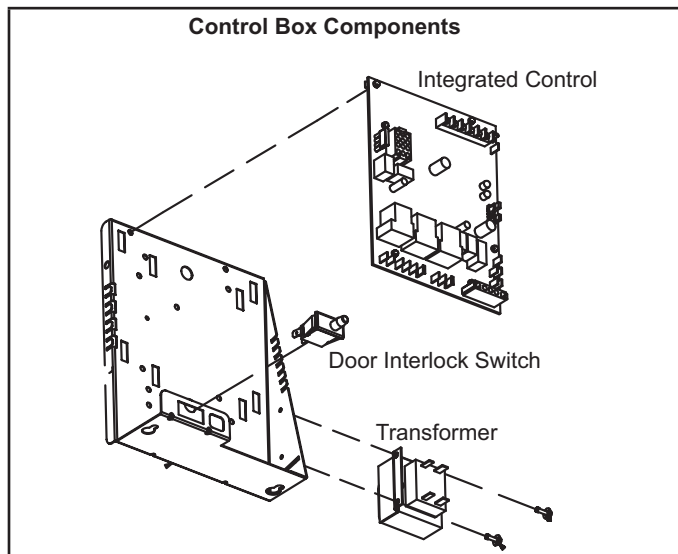

FIGURE 2
ML296DFV(X) unit components are shown in FIGURE 1. The gas valve, combustion air inducer and burners can be accessed by removing the access panel. Electrical components are in the control box (FIGURE 2) found in the blower section.